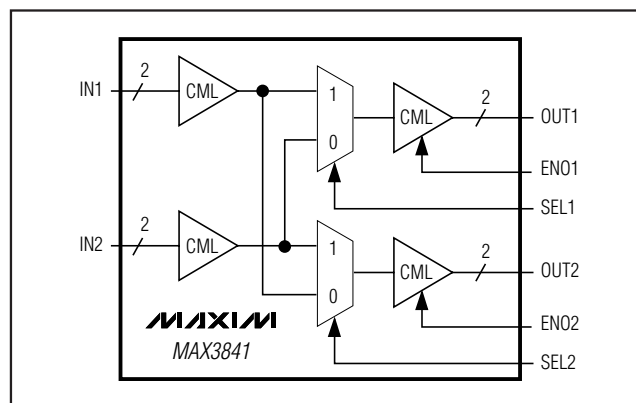

Figure 1. Functional Diagram
**Note 2:** Differential swing is defined as  $V_{IN} = (IN_+) - (IN_-)$  and  $V_{OUT} = (OUT_+) - (OUT_-)$ . See Figure 1.
The MAX3841 contains a pair of CML inputs that drive two 2:1 multiplexers, with separate select inputs SEL1 and SEL2, providing a 2 × 2 crosspoint data path. The outputs of the multiplexers each drive a high-performance CML output that can be disabled (powered down) using the ENO1/ENO2 inputs. All of the data paths are fully differential to minimize jitter, crosstalk, and signal skew. See Figure 1 for the functional diagram.